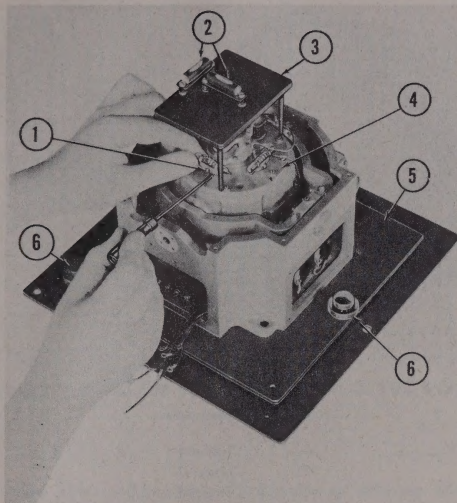

Figure 204 — Adjusting Level Vial
(17) LEVEL ROTOR CASE ON LEVELING PLATE. (See figure 204.)
(18) ADJUST LEVEL VIALS ON ROTOR CASE. (See figure 204.)